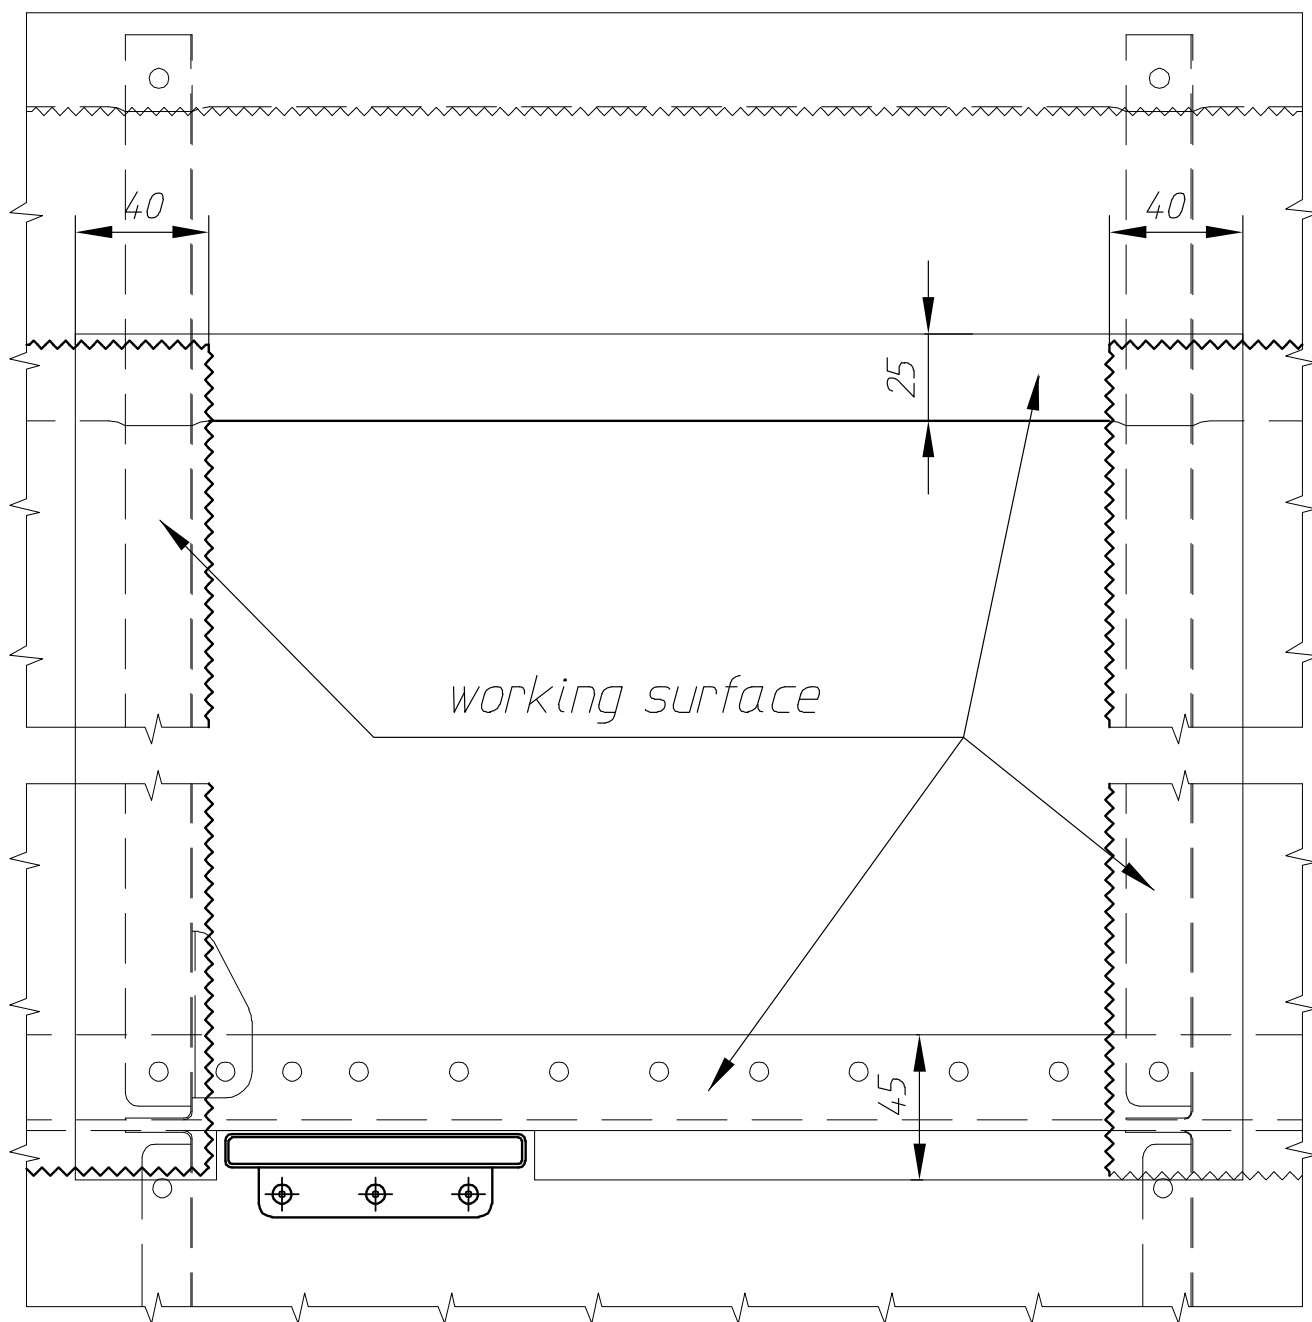

Fig. 3
- 2) Rivet the new angles (2) to the wing skin.
- 3) Remove the paint from the fabric using the sandpaper and from the skin using the paint wash-off liquid (the area where the fabric will be cemented) fig. 3.